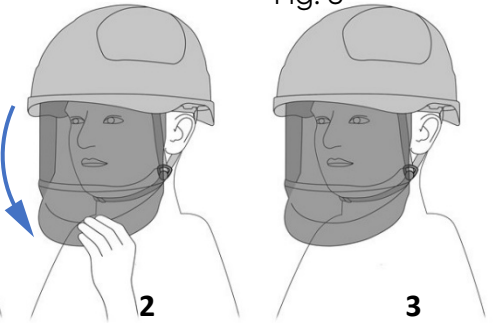

Fig. 6
1. To lower (open) the face shield (Fig.6), gently grab it with hand, (1), pull it down (2), until it fully extends to the outside of the helmet (3).